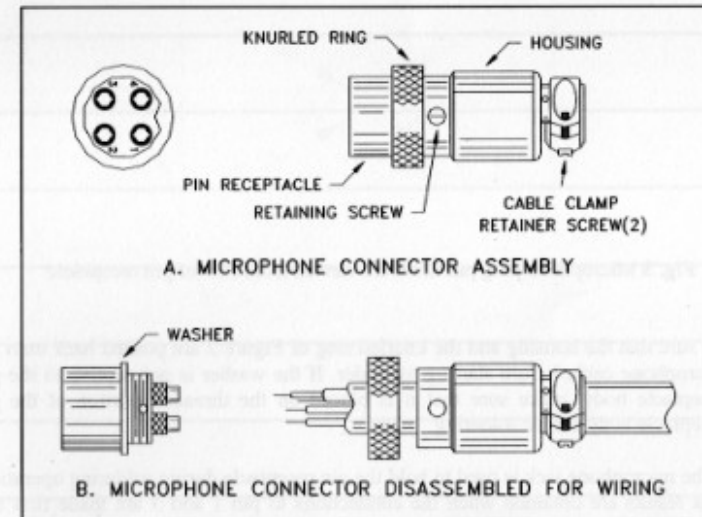

Fig. 2 Microphone plug wiring
4. Feed the microphone cable through the housing, knurled ring and washer as shown in Figure 2.